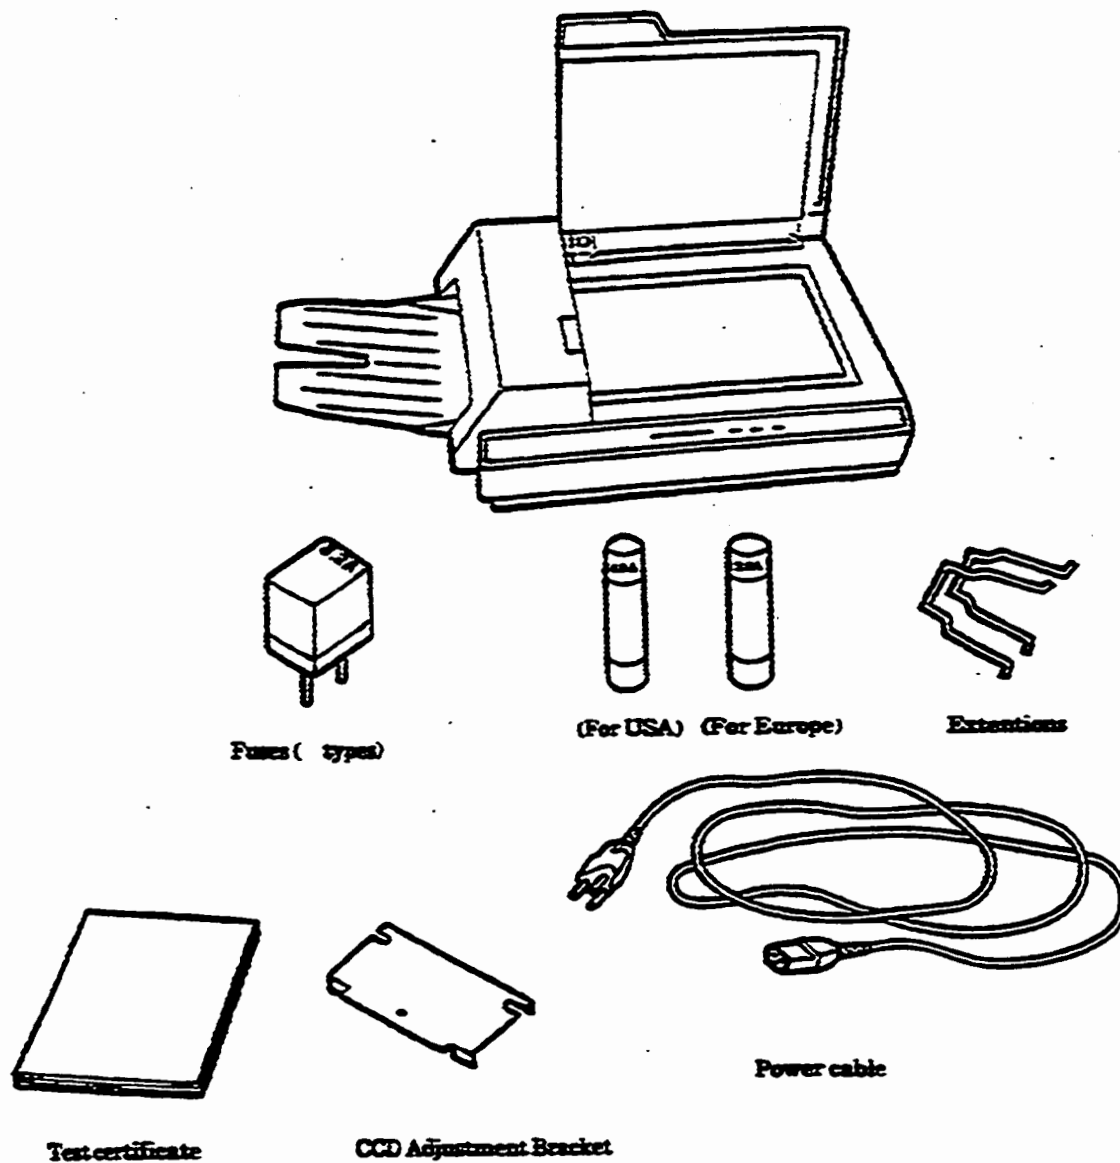

Figure 2.2 Received products
- ① Remove two joints.
- ② Pull up the carton to remove.
- ③ Remove the upper retainers.
- ④ Take out the accessories and test certificate.
- ⑤ Take out the scanner.
- ⑥ Take out the scanner from vinyl bag and remove the protection tape.
- ⑦ Check the accessories by referring to Figure 2.2 and Table 2.1